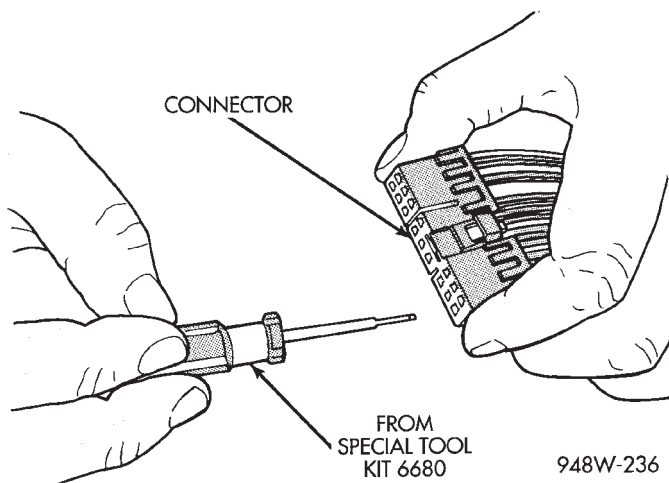
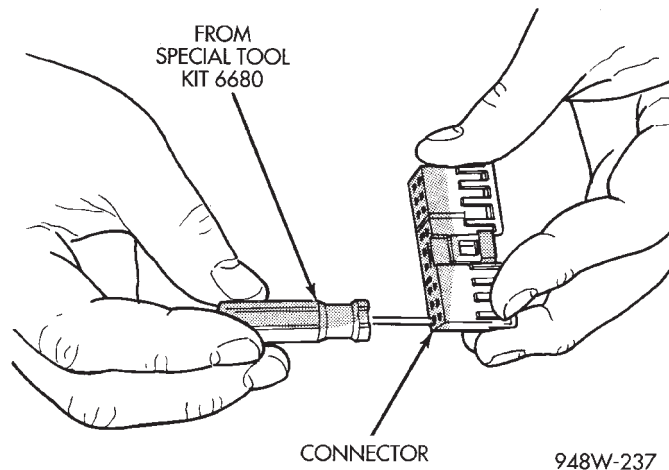

Fig. 16 Terminal Removal
Fig. 17 Terminal Removal Using Special Tool
- (4) Position the connector locking finger away from the terminal using the proper pick from special tool kit 6680. Pull on the wire to remove the terminal from the connector (Fig. 16) (Fig. 17).
- (5) Reset the terminal locking tang, if it has one.
- (6) Insert the removed wire in the same cavity on the repair connector.
- (7) Repeat steps four through six for each wire in the connector, being sure that all wires are inserted into the proper cavities. For additional connector pin-out identification, refer to the wiring diagrams.
- (8) Insert the connector locking wedge into the repaired connector, if required.
- (9) Connect connector to its mating half/component.